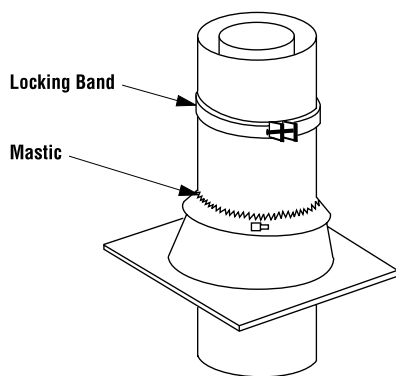

Figure 28
Step 8. The standard Security Chimneys FTF8 roof flashing assemblies include a storm collar. Slide the storm collar over outer chimney, rest on flashing spacers and align with top surface of flashing. Insert tab in slot, pull tight and bend tab back over slot. Seal storm collar to outer chimney with roof caulking or mastic around entire circumference of pipe. Also add extra roof caulking to the tab/slot area to seal completely against water penetration (see Figure 28). Check all joints very carefully to ensure no water intrusion can take place.